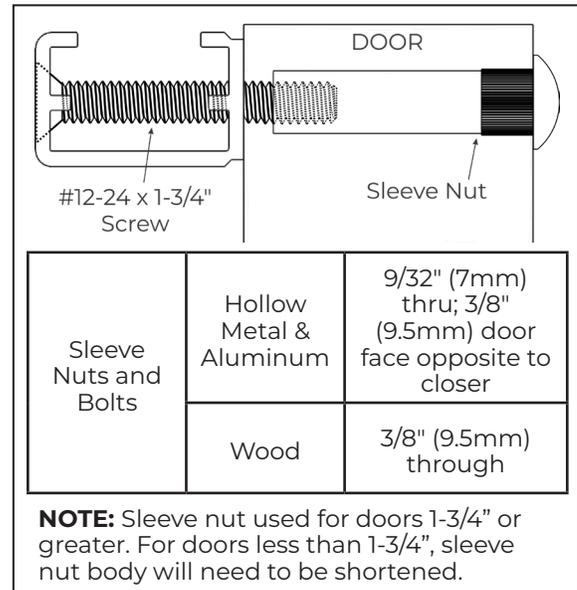

Figure 5
- **For sleeve nuts**, see illustration. (Figure 5)